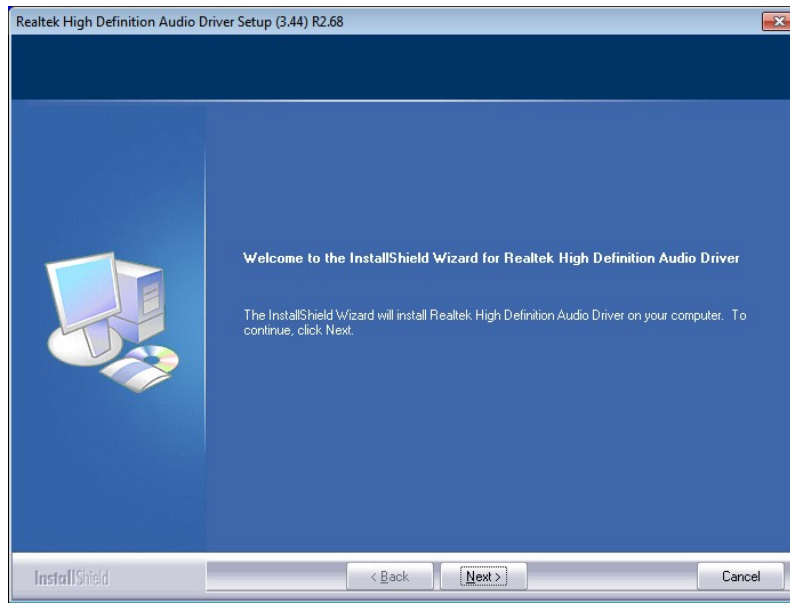

Figure 6-16: Audio Driver Welcome Screen
Step 5: Once initialized, the **InstallShield Wizard** welcome screen appears (**Figure 6-16**).